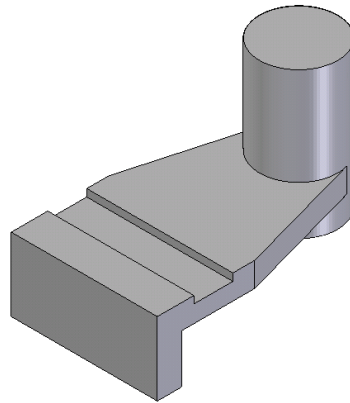

Figure 5-54 Model after creating the third feature
- Define a reference plane at an offset of 10 units from the bottom face of the second feature and use it to create the third feature, refer to Figure 5-54.
6. Choose **Finish** and then choose **Cancel** to create the feature and exit the **Protrusion** tool. The model, after creating the third protrusion feature, is shown in Figure 5-54.